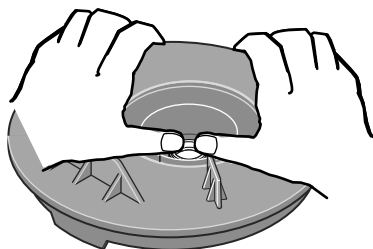

Figure 5: Press seal into seal plate
1. Ceramic seat must be clean and free of dirt, grease, dust, etc. Wet outer edge of rubber cup on ceramic seat with small amount of liquid detergent; press ceramic seat into seal plate firmly and squarely with finger pressure (Figure 5).